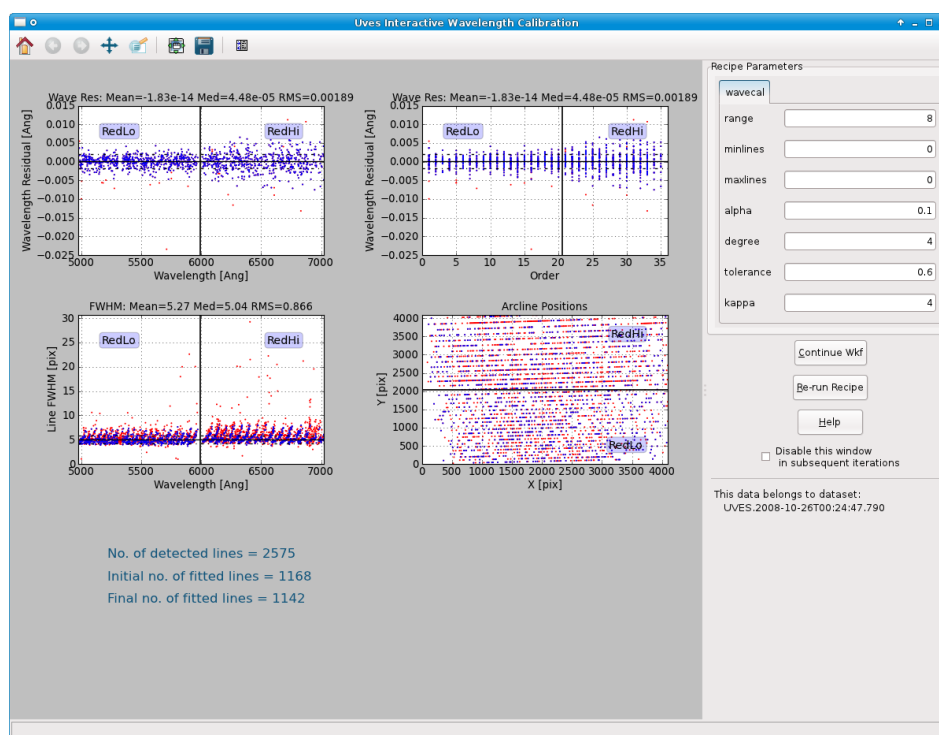

Figure 7.1: The interactive window for the Wavelength Calibration actor for the first DataSet in the data supplied with Reflex 2.4.
- Wavelength Calibration:** The next interactive window that will appear (see Figure 7.1) is associated with the execution of the Wavelength Calibration actor, which executes the UVES pipeline recipe `uves_cal_wavecal`. This pipeline recipe determines the wavelength calibration solution from an appropriate arc-lamp frame and a line reference catalogue. The top two plots in the interactive window show the wavelength calibration residuals for arc lines that were identified in the input line reference catalogue as a function of wavelength and spectral order. Blue points represent arc lines that were used in the final solution, and red points represent arc lines that were excluded from the final solution. The bottom-left plot shows the arc line FWHM as a function of wavelength, and the bottom-right plot displays the positions of all detected arc lines on the detector.